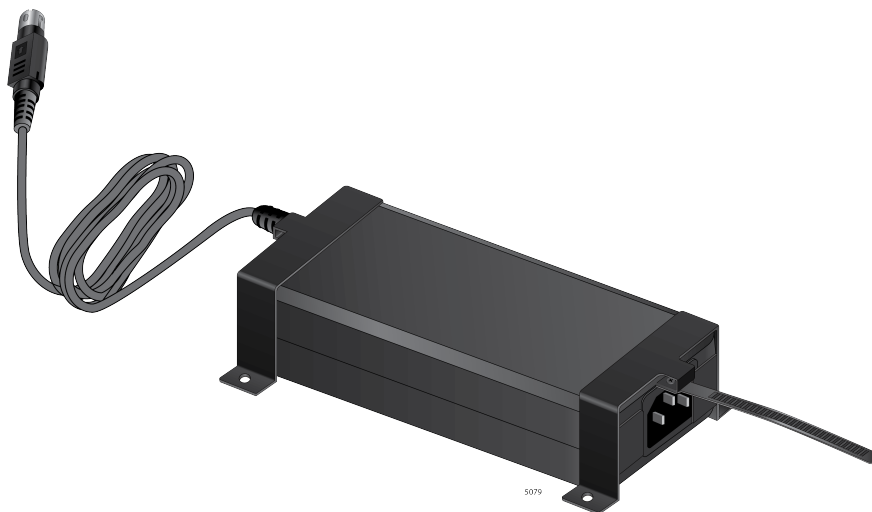

Figure 15. The Power Adapter with the Brackets
8. Place the brackets on the power adapter. See Figure 15 on page 28.